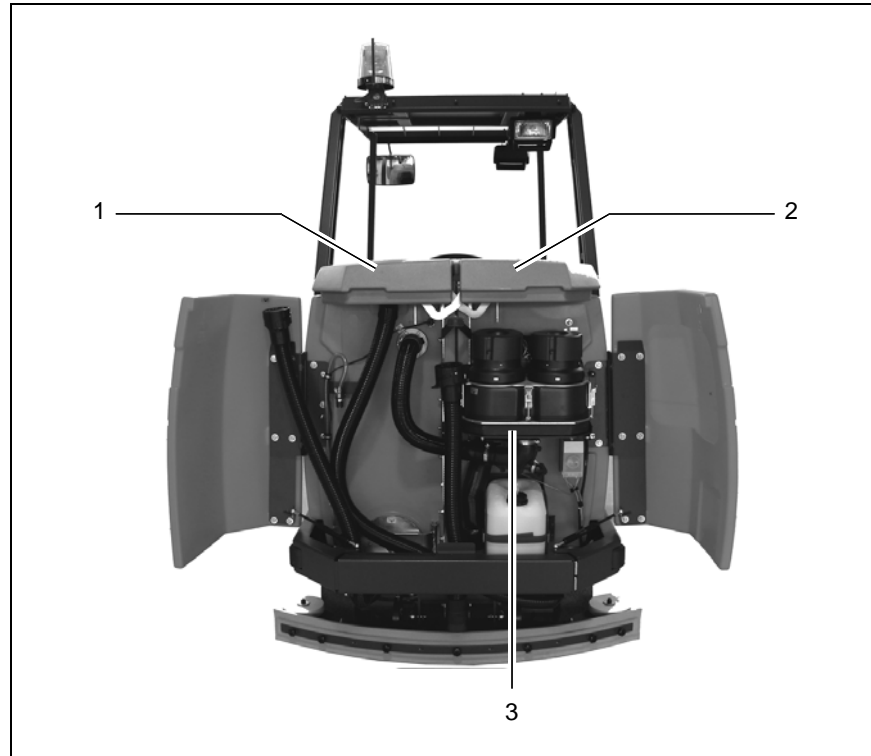

Fig. 14
3.1.3 Suction turbines (suction) (Fig. 14/3)
3.1.4 Solution tank (Fig. 14/2)
3.1.5 Waster water tank (Fig. 14/1)